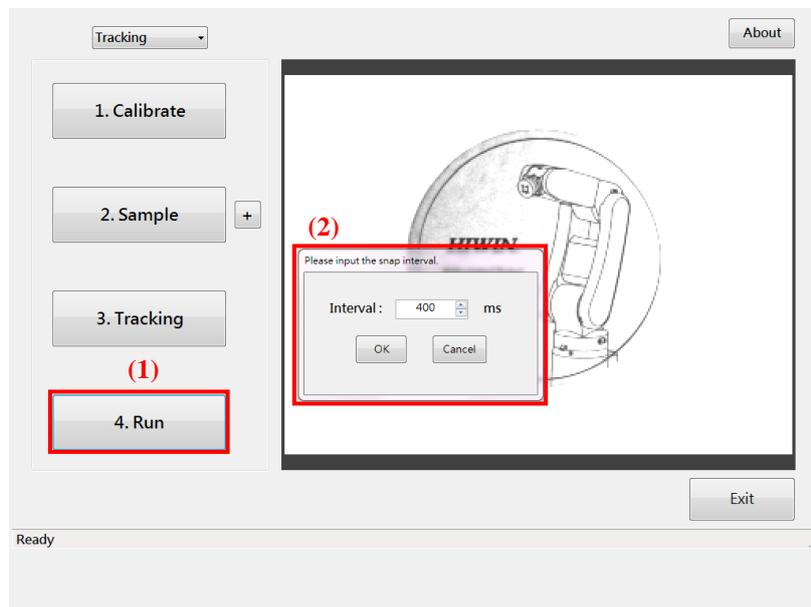
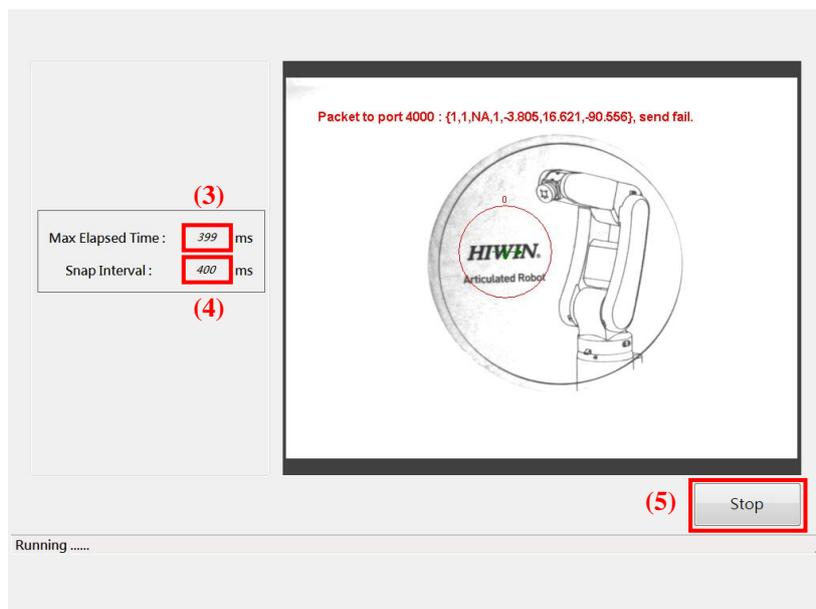

Figure 9-3 Start conveyor tracking pick and place test run
Figure 9-4 Conveyor tracking pick and place test run
- (1). In Figure 9-3, press "3. Run button".
- (2). Enter the image capture interval and press the "OK" button to start the test run.
- (3). In Figure 9-4, the vision system will automatically perform a continuous identification test and update the maximum identification time so far.
- (4). Display the current image capture interval. If the maximum recognition time has exceeded the current acquisition interval, this interval will automatically increase.
- (5). Press the "Stop" button to end the test run.